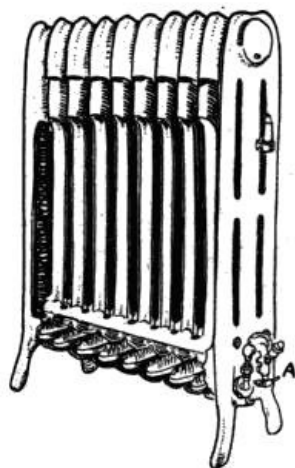

FIG. 42. Gas radiators.
82. Gas Radiator Heaters. Gas radiators (Fig. 42) are another type of gas heater. The radiator is a coil of pipe. The heating unit is below the coil and works like any other Bunsen burner. A small amount of water is kept in the pipes. There is a device attached to
the radiator to automatically adjust the height of the gas fire (A, Fig. 42).